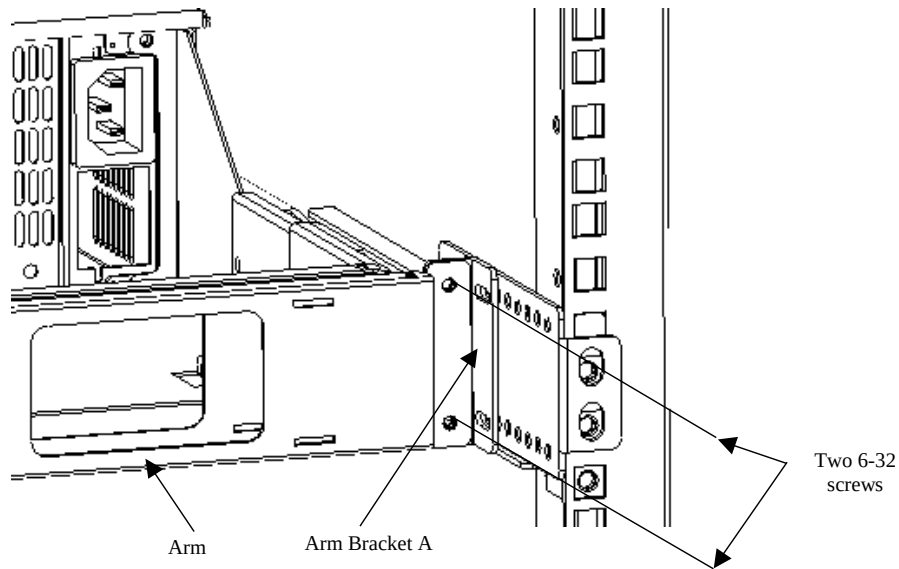

Figure 2-29. Installing the Cable Arm to Arm Bracket A
6. Install the free end of the cable arm to Arm Bracket A using two 6/32 screws. See Figure 2-29.